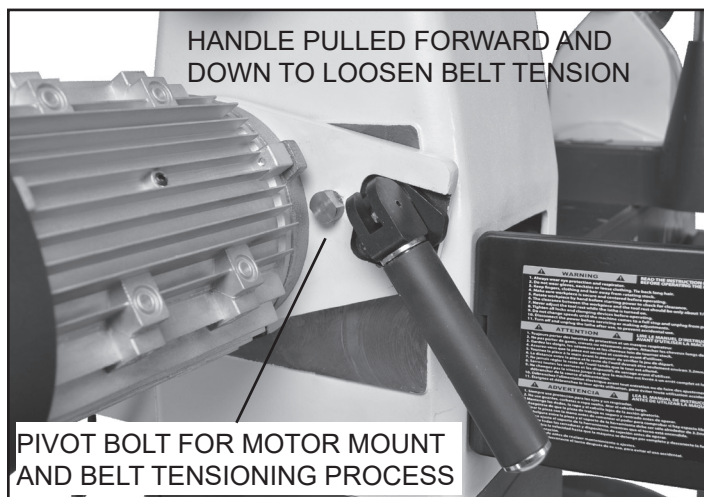
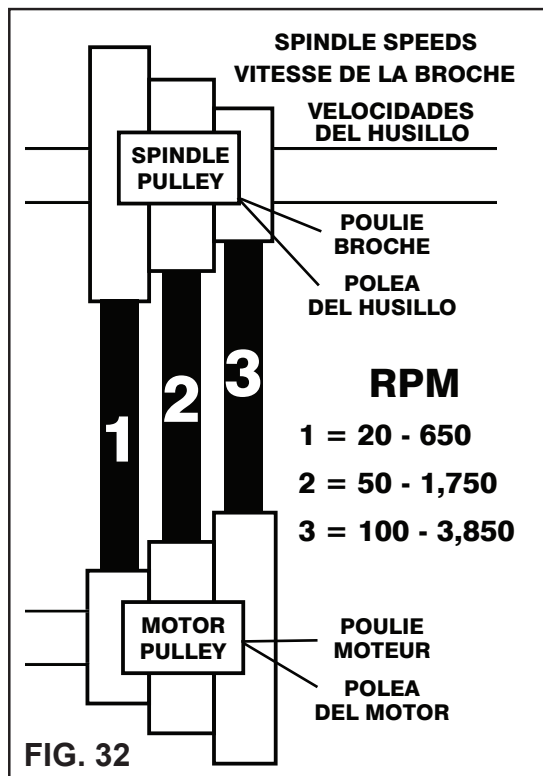

FIG. 31
FIG. 32
To change between the 3 speed ranges, Figure 32, the position of the drive belt on the motor and spindle pulleys must be changed. To do this:
4. Push the Tensioning Handle down to loosen the tension on the Poly-V-Belt (B56). FIG. 31. The belt can now be positioned on the pulleys for the desired speed range. FIG. 32 shows the belt positions for the three speed ranges.